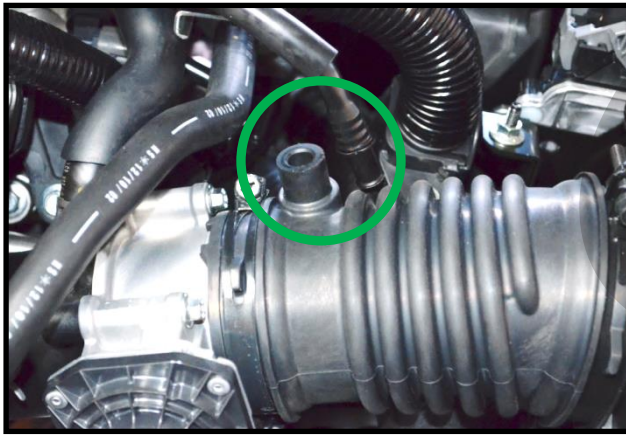

Figure 1c
- c) Remove valve cover hose from intake elbow. Shown removed in Figure 1c
- c) **Remove valve cover hose** from intake elbow. It should pull out with a little effort. Shown removed in Figure 1c